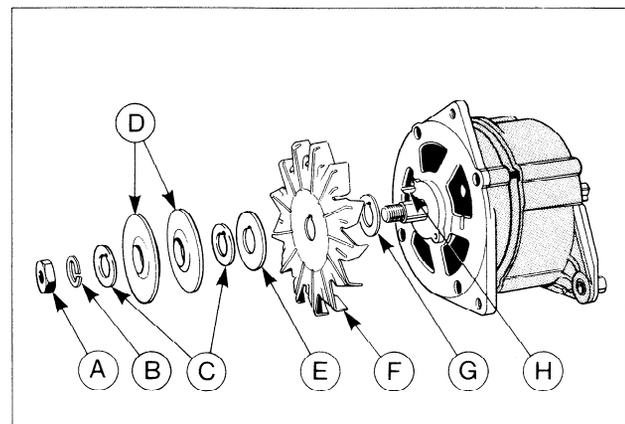

FIG. 6 Fan, Pulley and Associated Components
Figures 6 and 7 show a disassembled view of the alternator.
- NOTE: Observe position and direction of spacer and dished washer between pulley and fan (Fig. 6).**